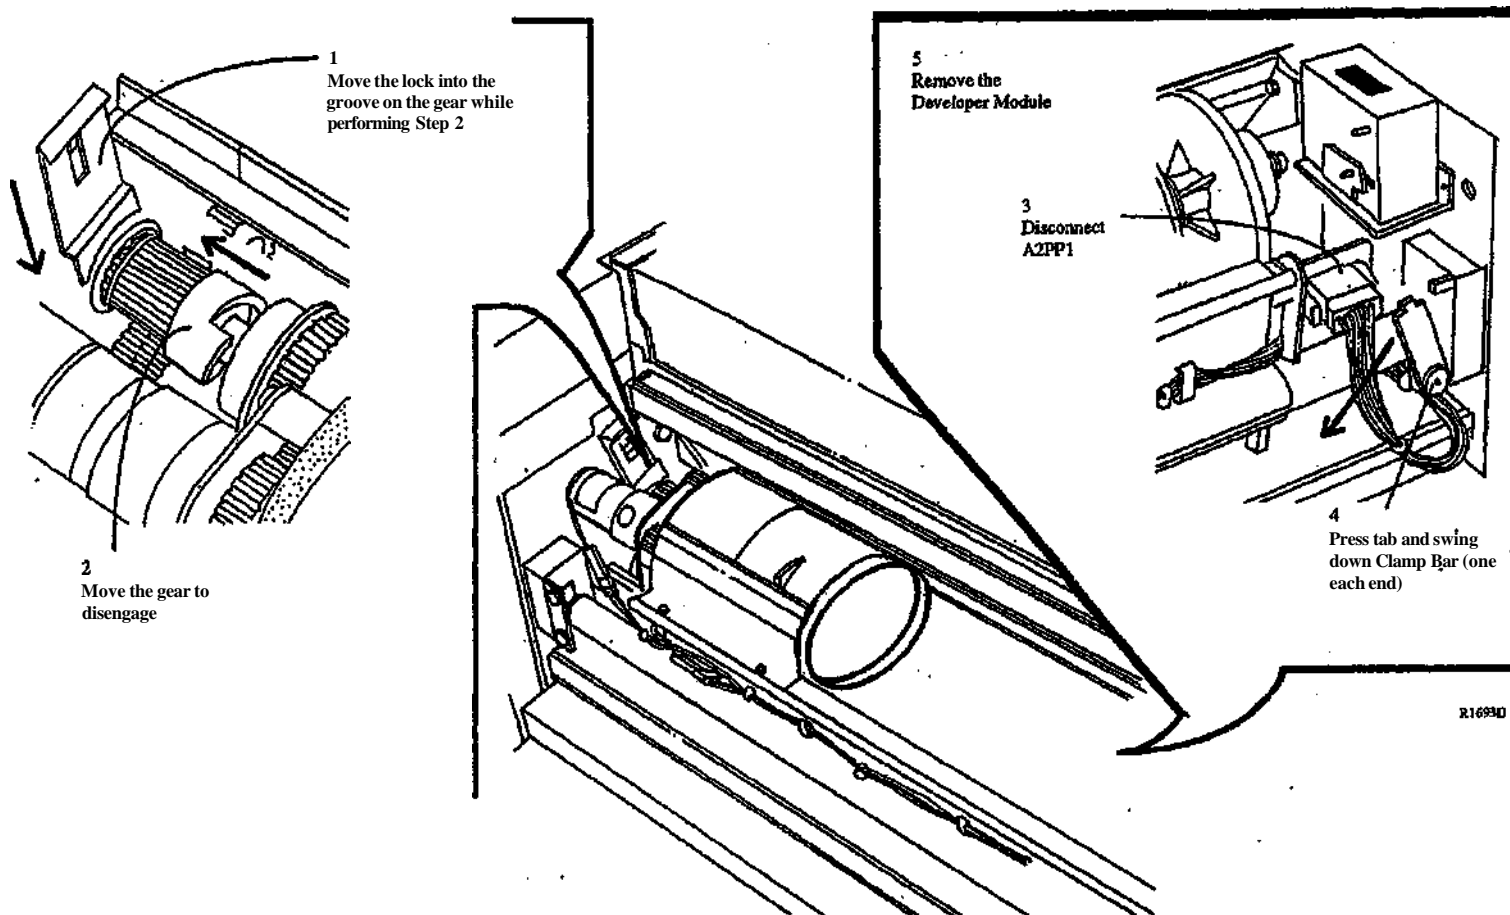

Figure 2. Removing the Developer Module
6. (Figure 2): Remove the Developer Module.